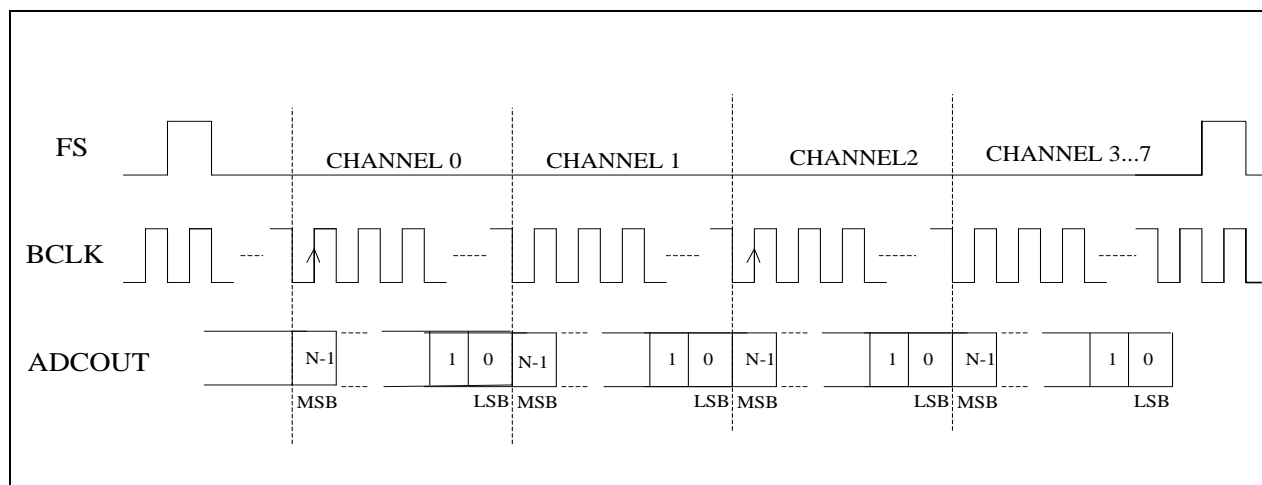

Figure 36 PCM Time Offset Audio Data
Normally, the DAC and ADC data are clocked immediately after the Frame Sync (FS). In this mode, audio data are delayed by a delay count specified in the device control registers. The Channel 0 MSB is clocked on the BCLK rising edge defined by the delay count set in LEFT_TIME_SLOT_TSL0T_L0_REG0XF[9:0]. The subsequent channel's MSB is clocked on the next BCLK after the LSB of the previous channel. This can be seen in **Figure 36**.